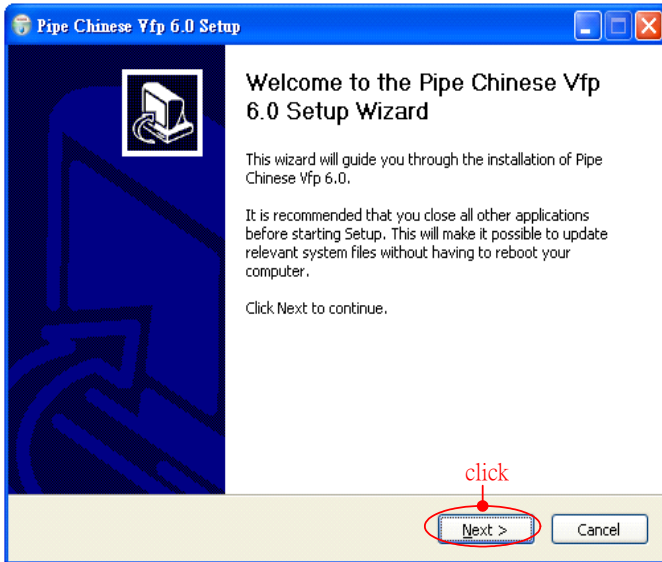

fig.4
- (3) Click *Pipe En-setup.exe* and follow the steps shown on the screen(fig 4~6).
- (4)After completing installation , all contents shall be copied into **disc C** with file name 「 *Pipe En_* 」 , and program 「 *Pipe English* 」 will be shown on the Desk Top as a shut-cut.